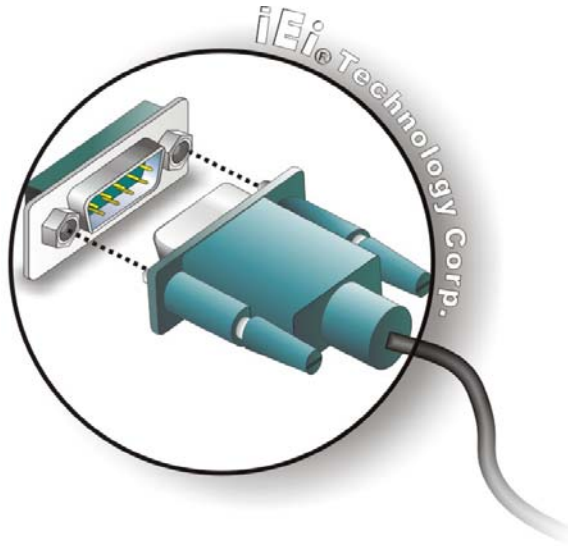

Figure 0-24: Serial Device Connector
Step 2: **Insert the serial connector.** Insert the DB-9 connector of a serial device into the DB-9 connector on the external peripheral interface. See Figure 0-24.